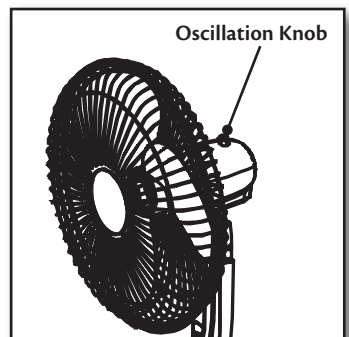

Figure 17.
5. To start/stop fan oscillation, push or pull the knob on the back of the fan assembly, or push the oscillation button on the remote control. **Figure 17.**